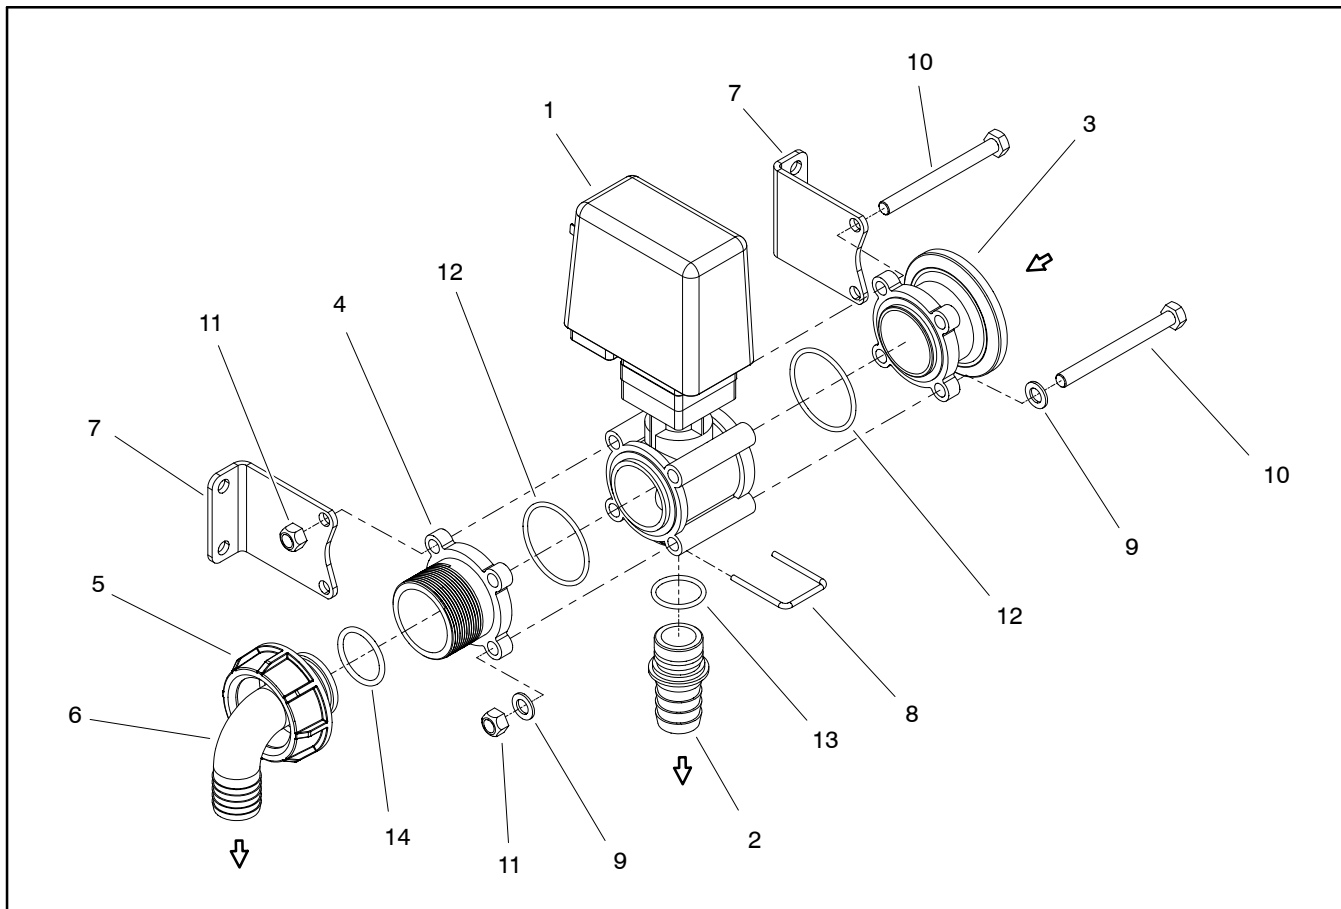

Figure 28.1
Removal and Inspection (Fig. 28.1)
2. Disassemble regulating valve assembly as needed using Figure 28.1 as a guide. Discard all removed O-rings and gaskets.
Assembly (Fig. 28.1)
2. Assemble regulating valve assembly using Figure 28.1 as a guide.